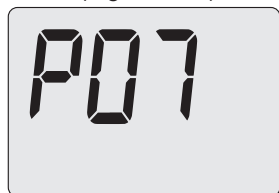

Figure 5.33
- Scroll through the various parameters using 12 or 13 until the LCD display shows the code **P07**, indicating entry into “parameter P07” (Figure 5.33).
- Press 12 or 13 (Figure 5.31) to confirm the value entered and return to the list of parameters Figure 5.33.